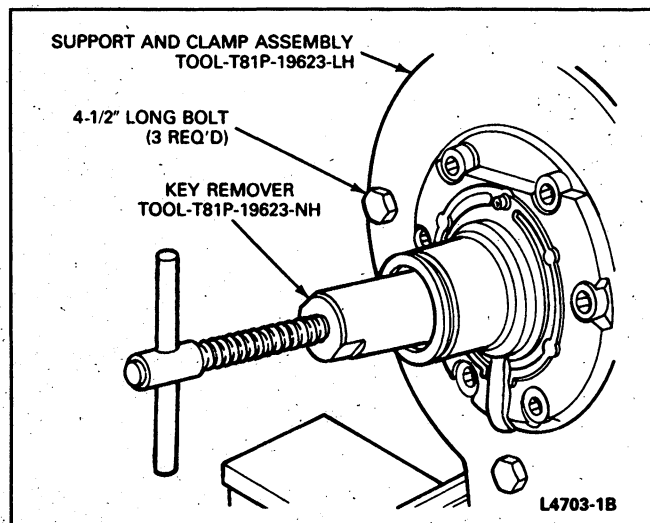

FIG. 13 Compressor Shaft Key—Removal
4. Remove the key from the compressor shaft with Shaft Key Remover T81P-19623-NH or equivalent (Fig. 13).
15. Remove the key from the compressor shaft with Shaft Key Remover T81P-19623-NH or equivalent (Fig. 13).